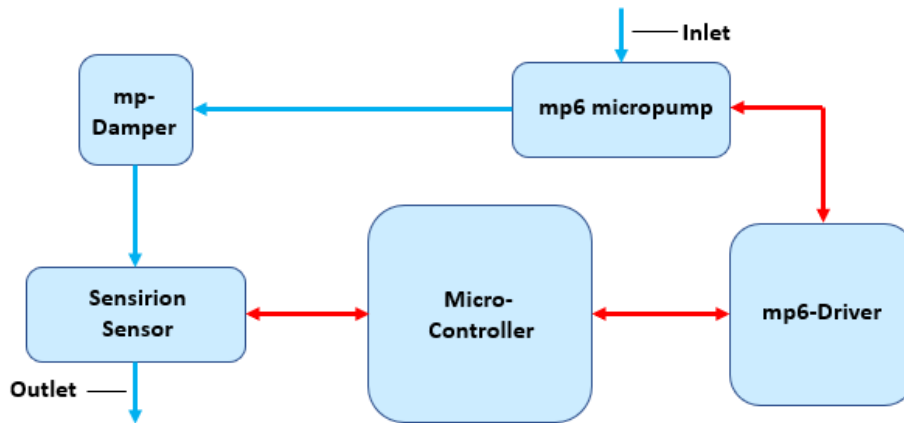

Figure 3:
Hence, to overcome these two facts in order to achieve a very precise flow, a regulated System (PI) has to be applied in addition to the mp-Damper. Figure 3 below show the block diagram of the complete Set-up.